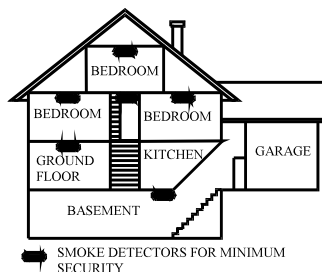

Figure 2: Installation locations for smoke / heat detectors in multiple- floor apartments or homes
- Install a smoke / heat detector on every floor in a multi-floor home (*see Figure 2*).